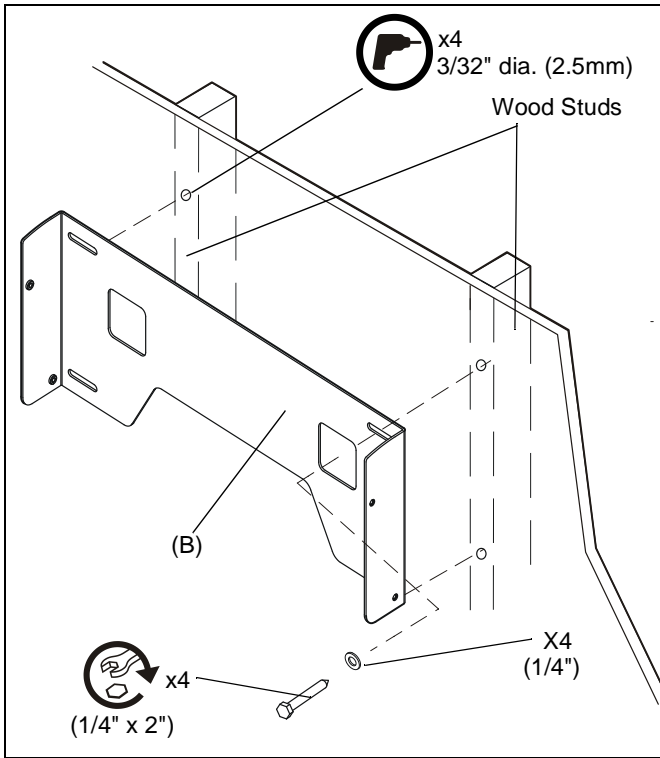

Figure 5
11. Drill four 3/32" dia. (2.5mm) pilot holes at marks. (See Figure 5)